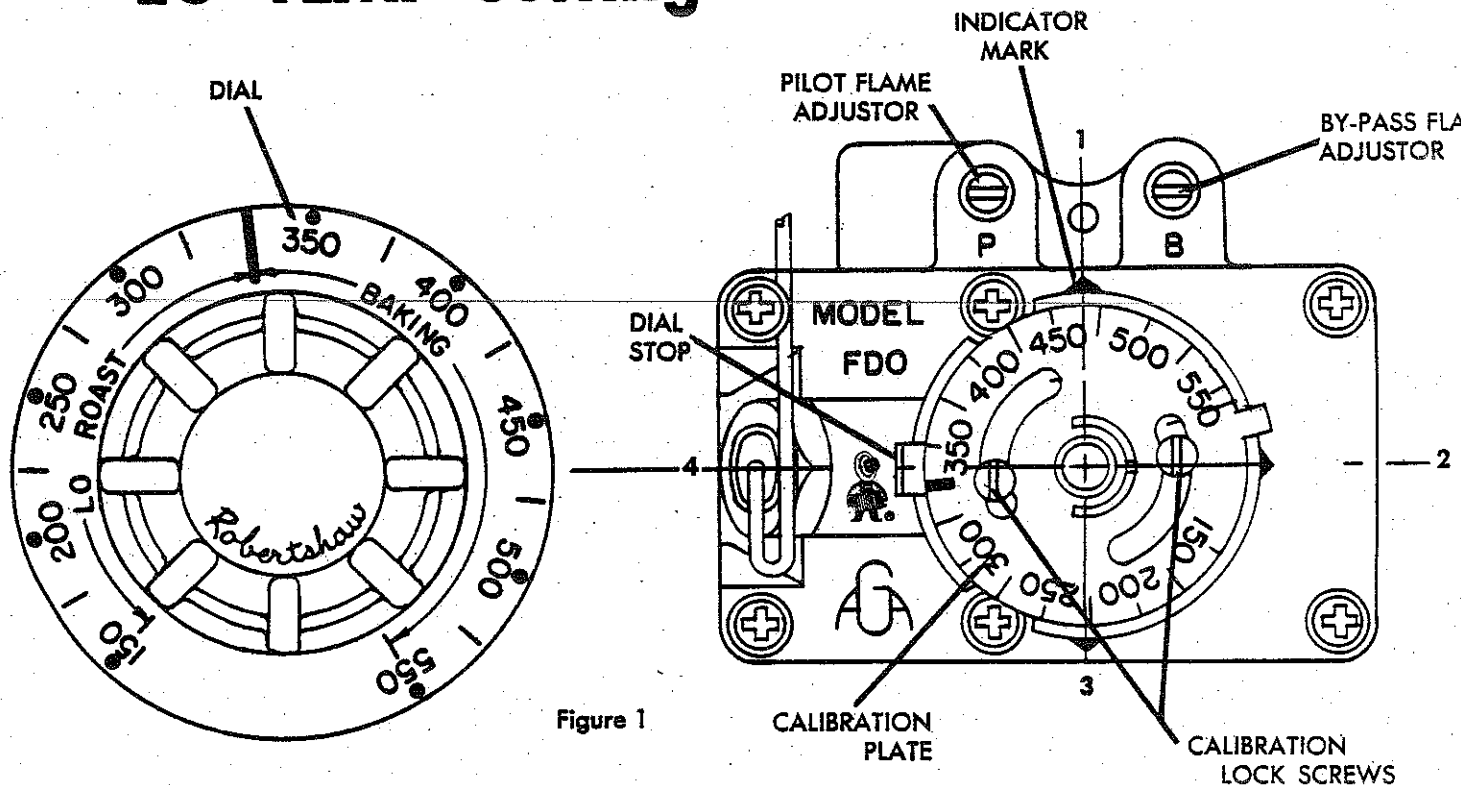

Figure 1
2. With a screwdriver turn "pilot flame adjustor" screw (figure 1) counterclockwise to increase the flame, clockwise decrease it until the flame is approximately $\frac{3}{4}$ " high.
BY-PASS (MINIMUM BURNER FLAME) (Refer to figure 1)